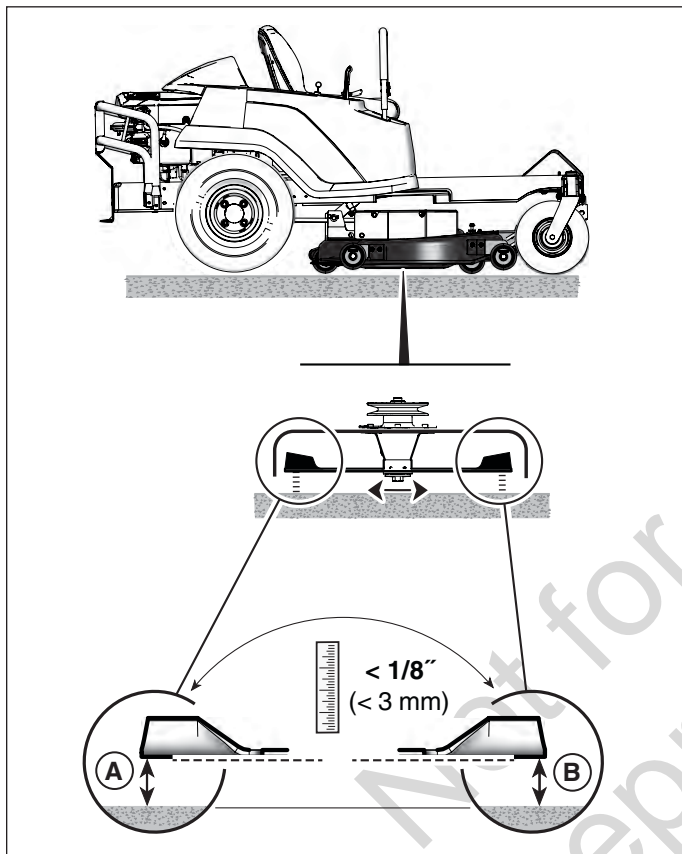
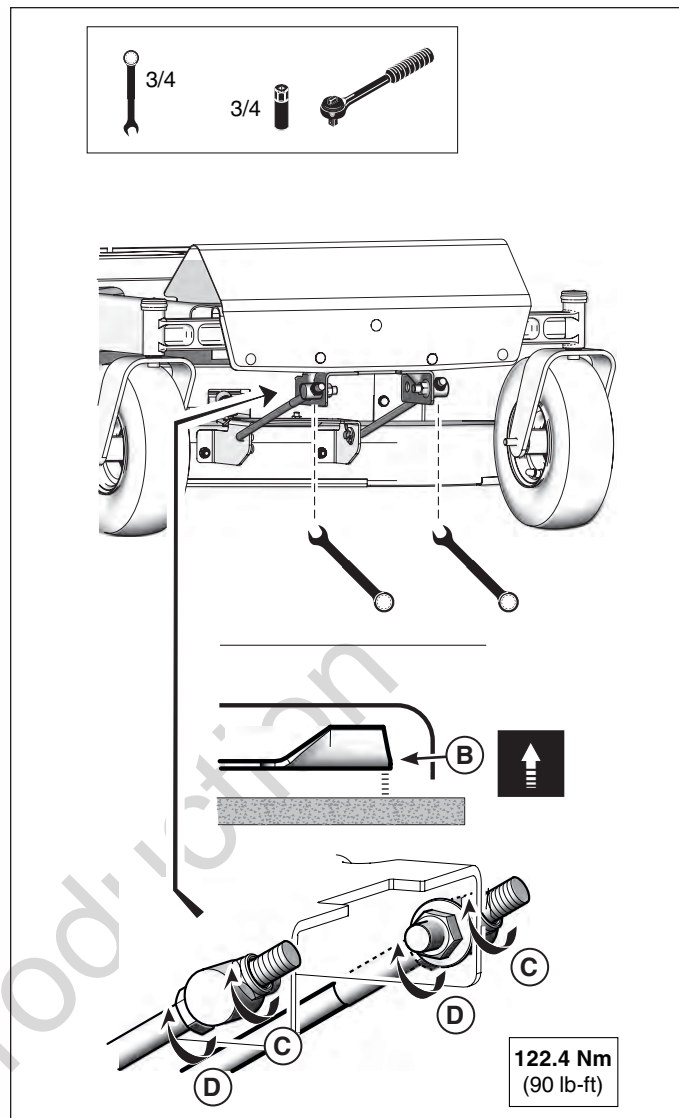
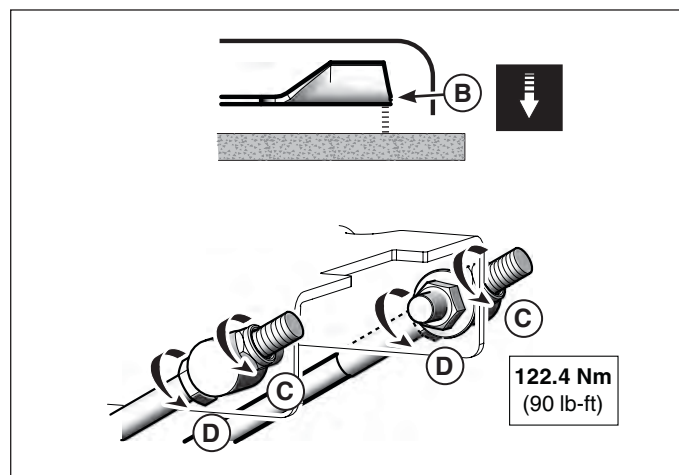

Figure 25. Mower Deck Level Check (Front-to-Back)
Figure 26. Raising Front Blade Tip
Figure 27. Lowering Front Blade Tip
1. Turn right side blade front to back. See Figure 25.
2. Measure the distance between the right side blade tips (A & B, Figure 25) and the floor. The difference between the two measurements (A & B) should be less than 1/8" (3mm).
To raise the front blade tip (B, Figures 25 & 26), turn the nuts (D, then C, Figure 26) in the direction indicated until the correct measurement is achieved.
To lower the front blade tip (B, Figures 25 & 27), turn the nuts (C, then D, Figure 27) in the direction indicated until the correct measurement is achieved.